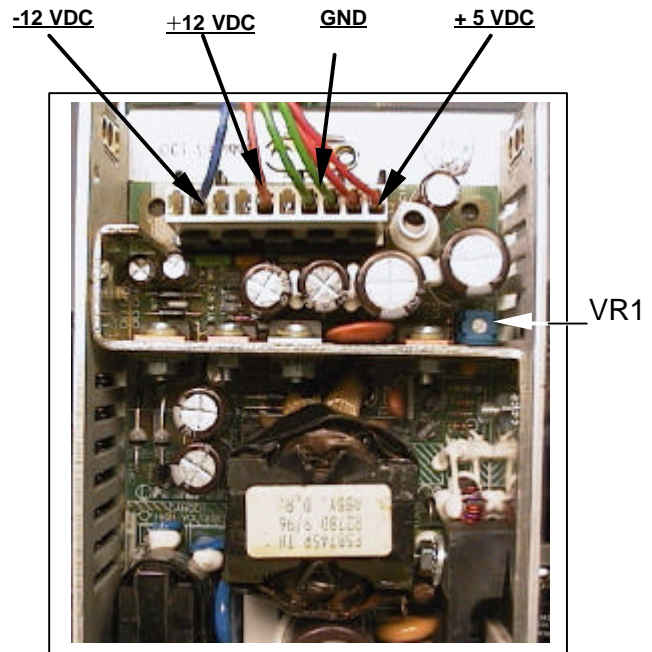

Figure 8-1
3. Measure the output voltage of supply V1. Terminal 1 of TB2 which is the positive output and terminal 4 of TB2 which is DC Ground (Refer to figure 8-1).
4. The nominal output voltage should be +5 volts DC (Range from 4.75 VDC to 5.25 VDC) If the voltage is not within this range, locate potentiometer V1 (refer to figure 8-1) and adjust the voltage while monitoring it on the meter.